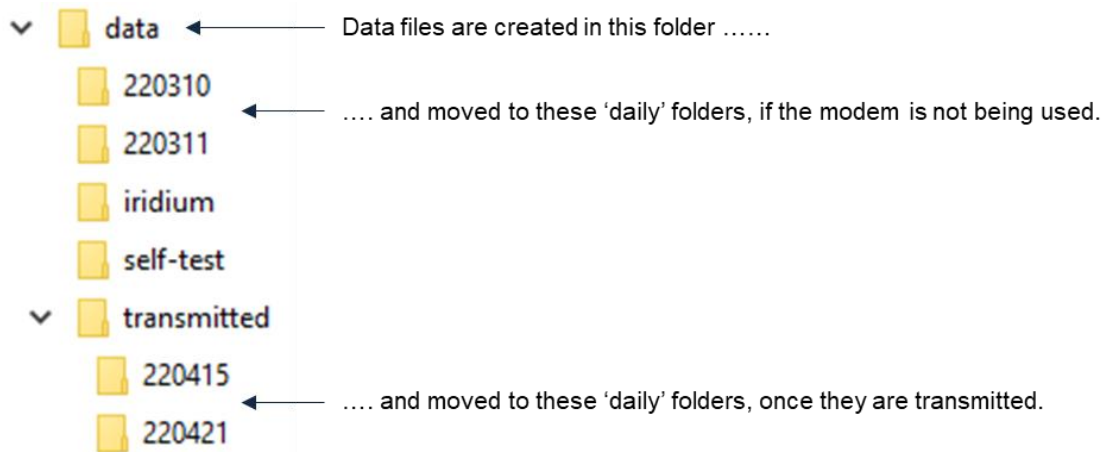

Figure 10. Location of the data files and folders, with and without cellular communication.
Data files are created on the SD card in the /data folder. This is where they 'line up' for transmission. Once transmitted, they are moved to a daily folder in the /data/transmitted folder. If multiple files are waiting for transmission, they will all be transmitted (and moved to the daily folder in /transmitted) in the order they were created (oldest first). See Figure 10. For an explanation of the file name and the file format, refer to section 16.1.
- **Internal logging without transmission:** If you did not schedule any transmission (so you are using the logger only for internal logging and not for transmitting the data), the files will still be created in the /data folder. But whenever a file is closed as scheduled, the file is moved to a daily folder in the /data folder. If you interrupt the logger application (control-C or power-down), the file is not moved. So you may find some incomplete data files in the /data folder if you have been using control-C. See Figure 10.